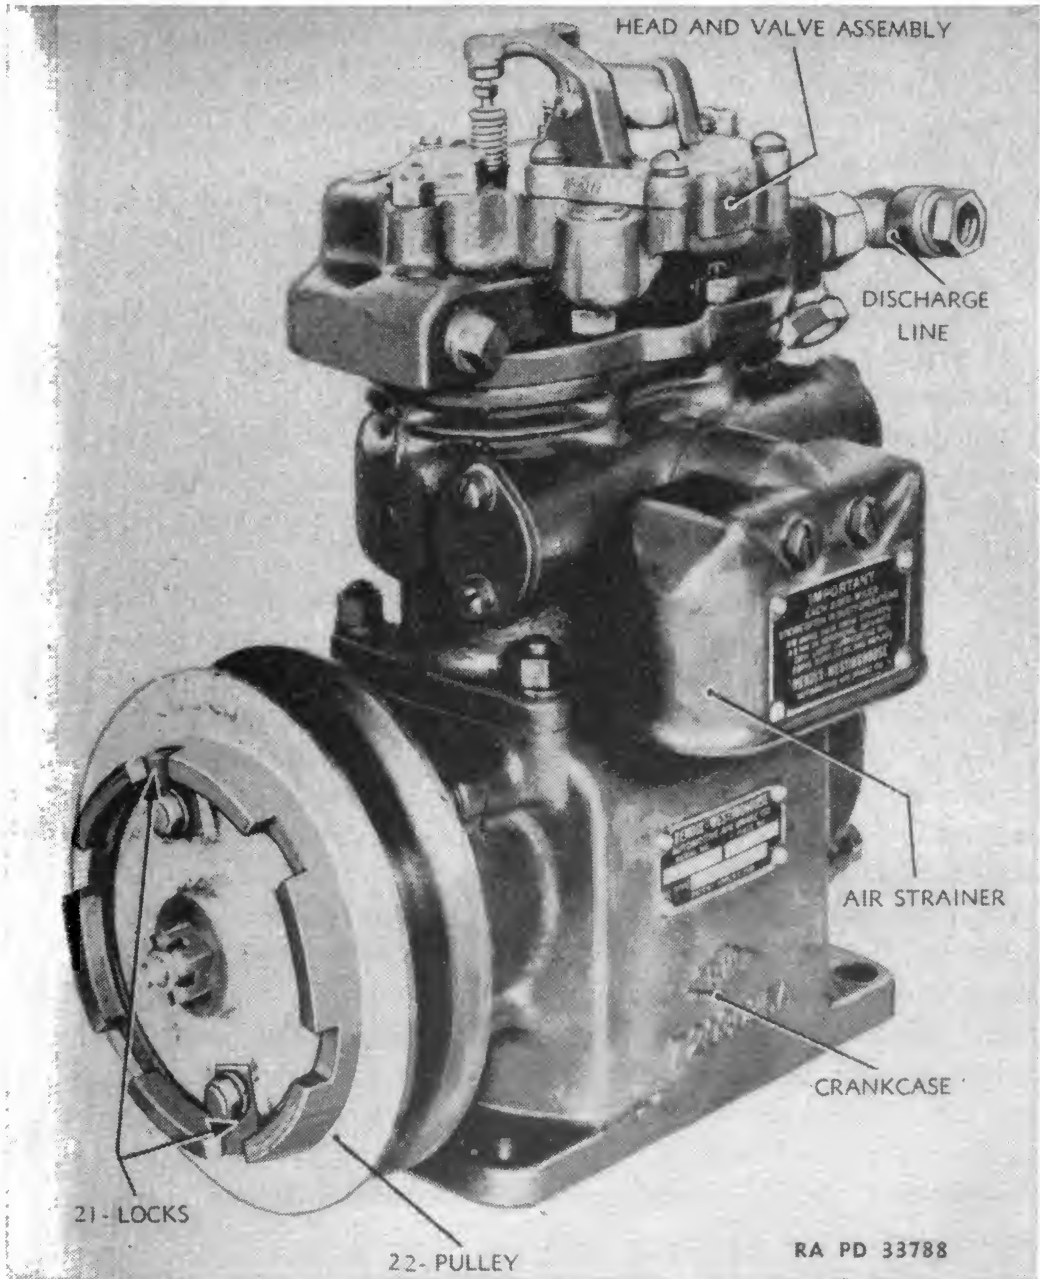
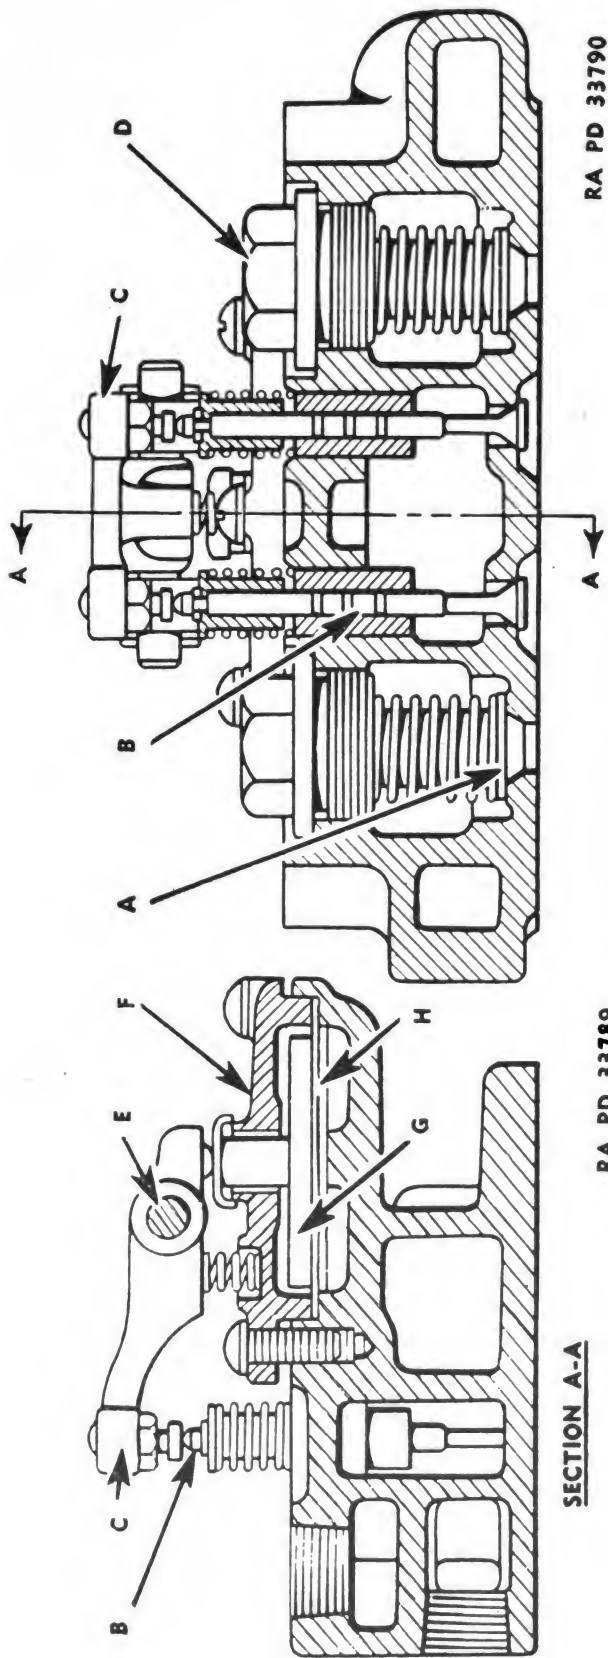

FIGURE 72.—Air compressor.
FIGURE 73.—Head and valve assembly.
65. Maintenance.—Inefficiency of the air compressor (fig. 72) is usually due to defective unloader valves (fig. 73), discharge valves, worn rings or cylinders, or carbon accumulations. Periodic inspections should be made for the purpose of replacing parts that are unserviceable as the result of wear and to remove carbon accumula-
72. Belt adjustment.—*a.* The compressor has a pulley with an adjustable outer rim (22) (fig. 72). The V-belt should be put in place and the outer rim adjusted until a satisfactory belt tension is obtained. The belt should not be too tight, as this will place excessive load on the shaft bearings; nor should the adjustment be too loose, as it will cause the belt to slip.
b. After the desired belt tension has been obtained, place the two locks (21) in place in the slots provided in the outer rim and pulley hub. Fasten in place with cap screws.